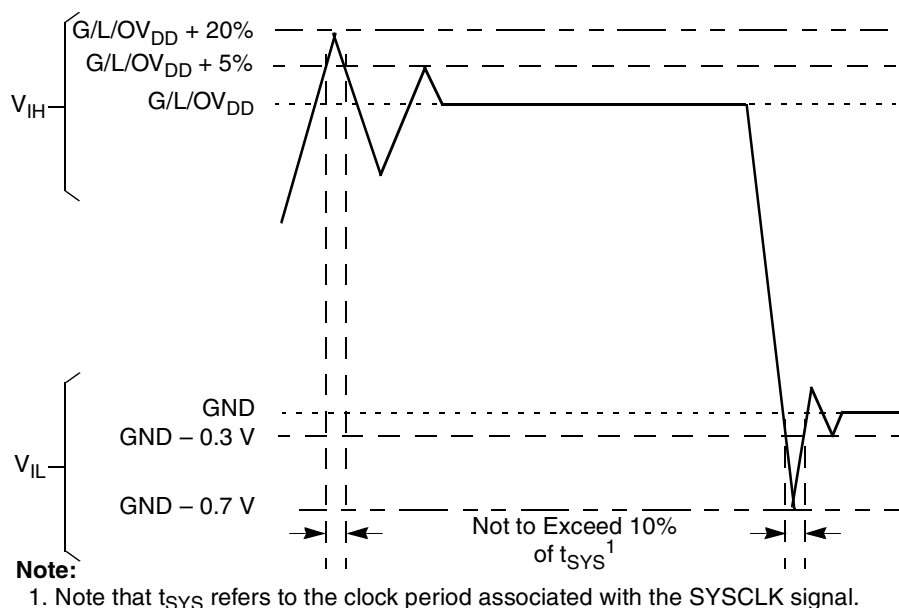

Figure 2. Overshoot/Undershoot Voltage for $GV_{DD}/OV_{DD}/LV_{DD}$
- (M,L,O) V_{IN} and MV_{REF} may overshoot/undershoot to a voltage and for a maximum duration as shown in Figure 2.
Figure 2 shows the undershoot and overshoot voltages at the interfaces of the MPC8541E.